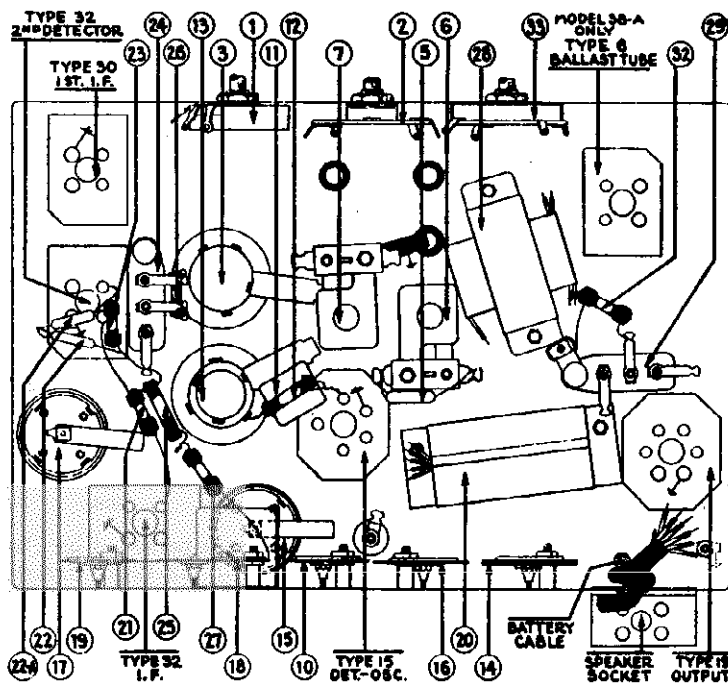

Fig. 2—Bottom View of Chassis, Showing Parts.
No. on Fig. 2 and 3
The location of the compensating condensers may be learned by referring to Fig. 3 of the present bulletin for their electrical location in the circuit; to Fig. 2 of this bulletin for the physical location of the compensating condensers underneath and at the rear of the chassis.
The intermediate frequency compensating condensers first should be adjusted. These condensers are identified as (10), (18), (19), and (20); they are situated at the rear of the chassis, and are shown in Fig. 2. They are accessible from the rear of the chassis. The intermediate frequency is 460 K.C.